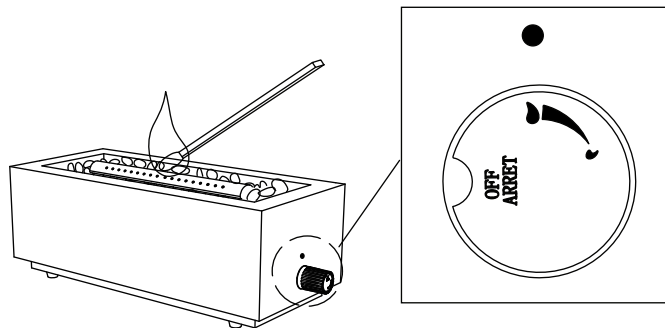

Figure 5
6. Wearing heat-resistant gloves, press the control knob and rotate to high " 🔥 " position, position a long match or long lighter near the burner to lit the product (Figure 5).